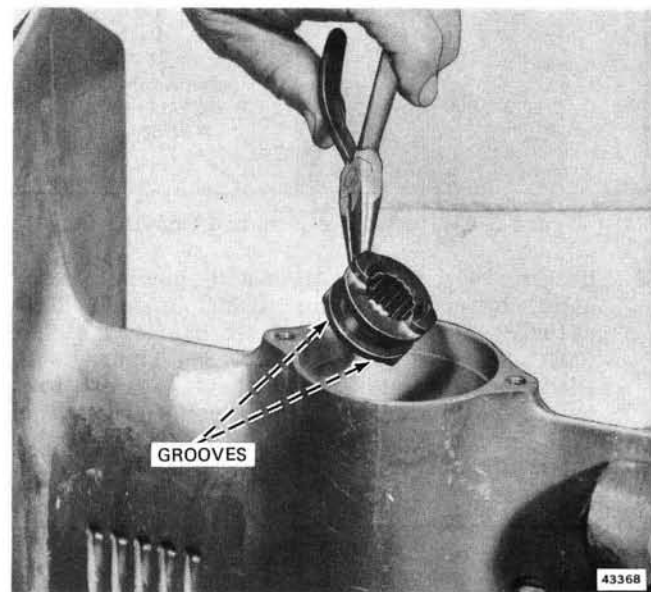

Figure 6-50. Installing Clutch Dog
8. Insert clutch dog in gearcase and position in cradle. GROOVES ON DOG MUST FACE FORWARD GEAR. See Figure 6-50.